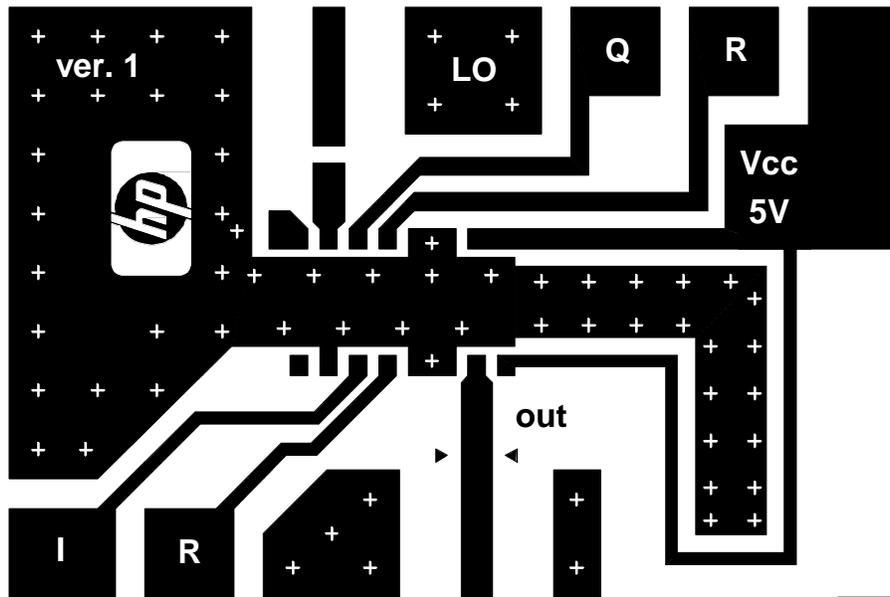

Figure 5. HPMX-2003/5 demonstration circuit board layout. Finished size: 1" x 1.5" x 1/32".
7) Figure 5, below, shows a scale layout of the demonstration circuit board. The board should be made from 1/32" thick, FR-4 type fiberglass circuit board with 1 oz. copper on both sides. Only the top side of the board is shown. The bottom side remains unetched and is used as a ground plane. Tin/lead
Use plenty of plated-through via holes in the ground areas for best performance. The via hole locations are indicated by white "+" marks in figure 5.